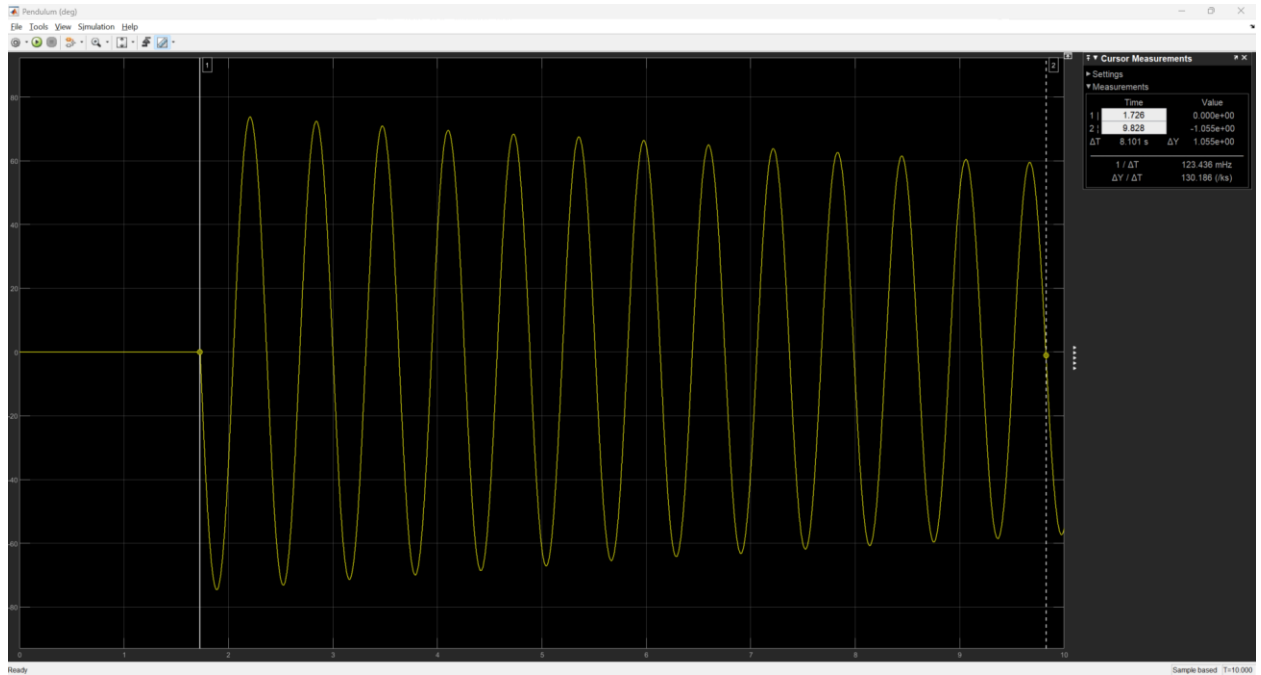

Figure 4: Sample response of perturbed pendulum.
20. Measure the number of cycles ( $n_{cyc}$ ) and the duration of the cycles ( $\Delta t$ ) from the pendulum position scope. Your response should look similar to Figure 4: